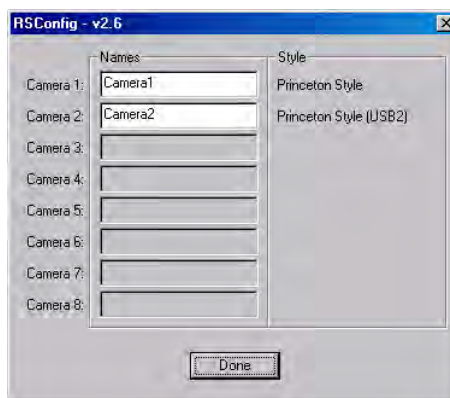

Figure 38. RSConfig dialog box: Two Camera Styles
4. When the RSConfig dialog box (Figure 38) appears, you can change the camera name to one that is more specific or you can keep the default name "Camera2". When you have finished, click on the **Done** button. You will next edit the generated PVCAM.INI file.